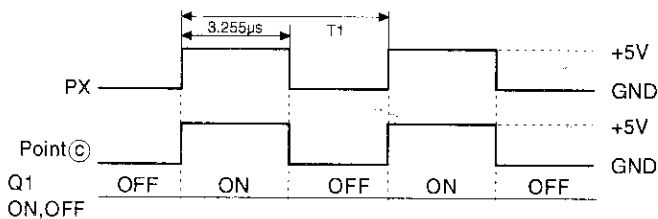

Fig. 4-2
- (2) The potential at point (a) is 4.8V when the output voltage is +12V (About +11V). A load fluctuation causes the +12V output to change. At point (b) of the comparators (+) side, a triangular waveform appears as shown in Fig. 4-2.
- (3) The comparator (IC No. 8...Circuit (B)), the potential at point (a) is compared with that of point (b). If the potential at point (a) is lower than point (b), Q1 activating time is prolonged to raise the output voltage (by increasing the duty cycle). On the contrary, if the potential at point (a) is higher, the transistor activating time is shortened to decrease the output voltage (by decreasing the duty cycle). As Q1 duties cycles are varied by detecting the +12V output fluctuation in the comparator (Circuit (B)), the output voltage is regulated at a constant level.